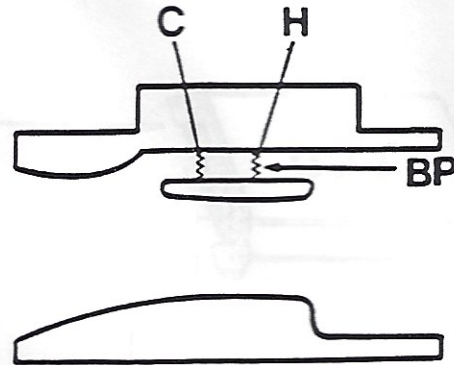

fig.37
Referring to the schematic cross-section of the air flow meter (Figure 37), you can see the bypass port (BP) through which a small portion of the total air entering the engine has to pass.